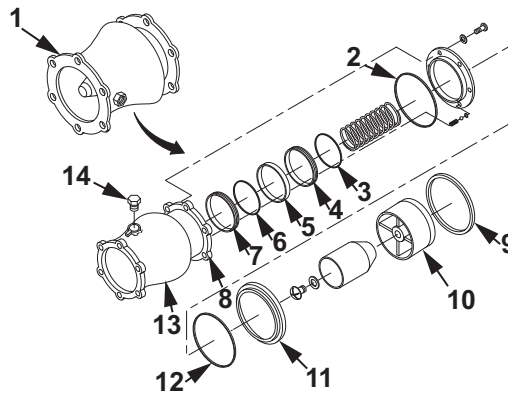

Figure 2. Hose End Control Valve Assembly.
1. Install breather assembly (Figure 2, Item 14) into hose end control valve housing (Figure 2, Item 13). Tighten breather assembly (Figure 2, Item 14).
2. Install new seal (Figure 2, Item 11) with new O-ring (Figure 2, Item 12) into hose end control valve housing outlet (Figure 2, Item 8).
3. Install new gasket (Figure 2, Item 7) with new O-ring (Figure 2, Item 6).
4. Install seal spacer (Figure 2, Item 5).
5. Install new gasket (Figure 2, Item 4) with new O-ring (Figure 2, Item 3).
6. Install new O-ring (Figure 2, Item 2) in groove of outer piston (Figure 2, Item 10).
7. Perform lapping of seal (Figure 2, Item 11).
12. Position hose end control valve housing (Figure 2, Item 13) into a bench vise. Hand tighten bench vise, being careful not to damage the hose end control valve housing (Figure 2, Item 13).